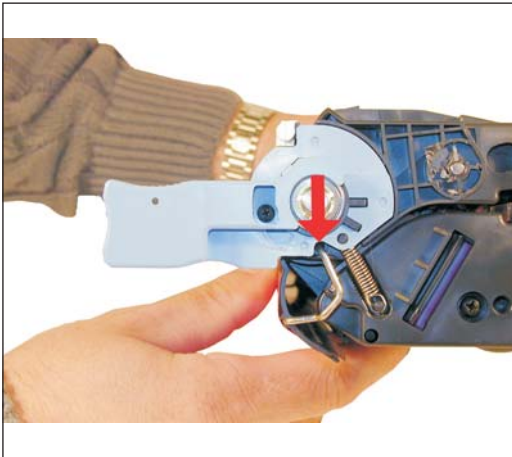

Figure 97
62) Install both sides of the metal arm of the drum cover into their respective holes on each side of the cartridge. Check to see that the cover operates freely. If the cover does not move freely, make sure that the bar is snapped into the cover properly. See Figures 97 & 98